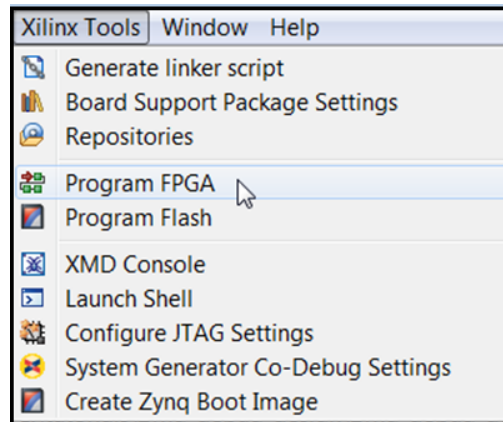

Figure 39: Program FPGA
3. Next, download the bitstream into the FPGA by selecting **Xilinx Tools > Program FPGA** (FIGURE 39).